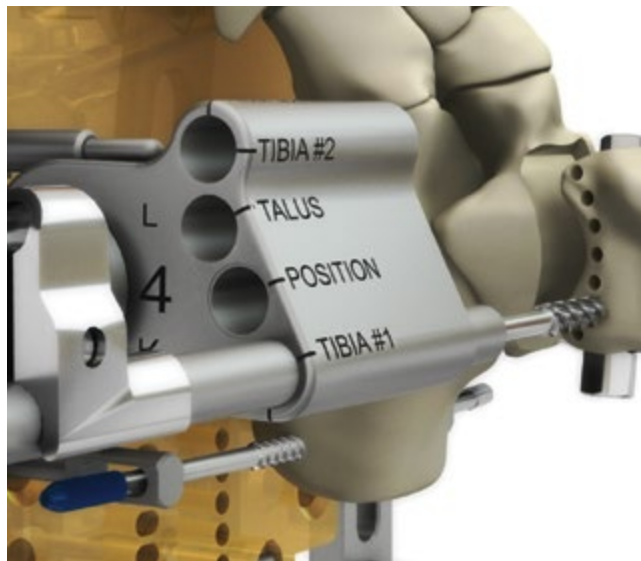

Fig. 57
- Insert the bur assembly through the “TIBIA #1” hole in the Cutting Guide (Fig. 57).